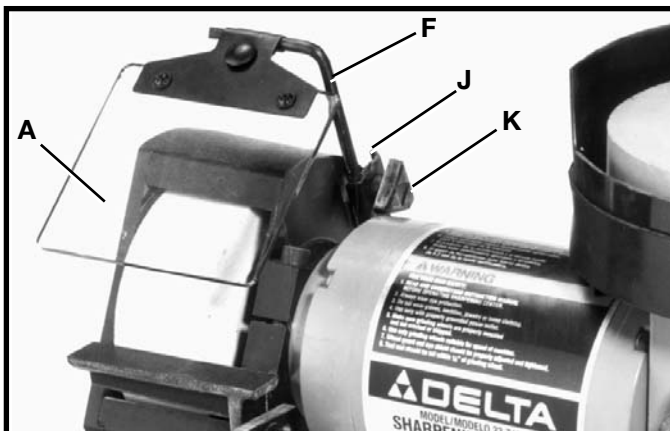

Fig. 6
4. Assemble the long end of eyeshield mounting rod (F) Fig. 6, to the side of the dry wheel guard using clamp bracket (J) and lock knob (K). The eyeshield (A) is fully adjustable to any position by moving shield (A) or loosening lock knob (K) and repositioning mounting rod (F).